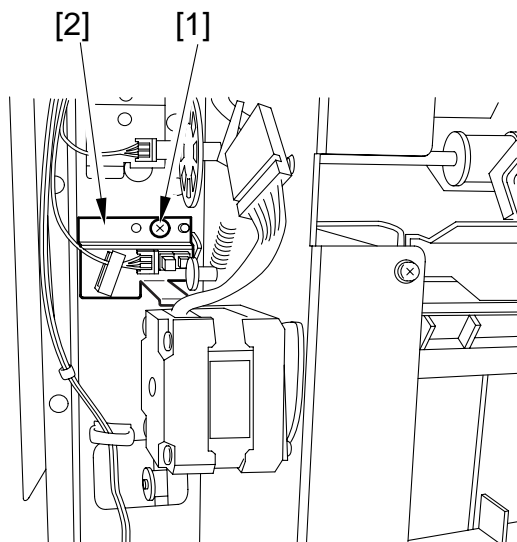

Figure 3-401
- 4) Remove the returning roller unit. (Figures 3-401 and -402)